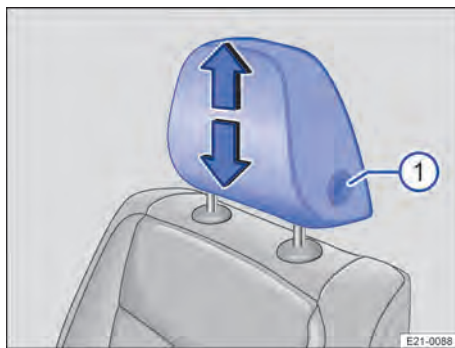

Fig. 75 First row of seats: Adjusting the head restraint
1. Push the head restraint up or down while pressing and holding the button → Fig. 75 ①.